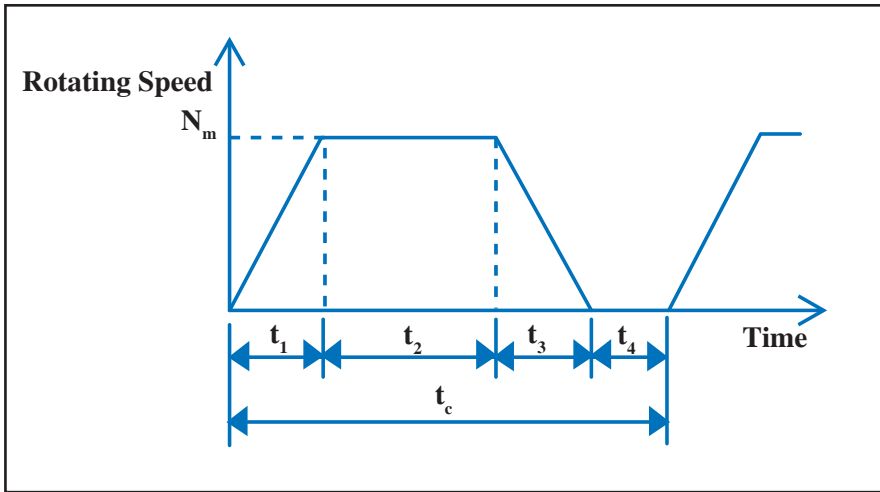
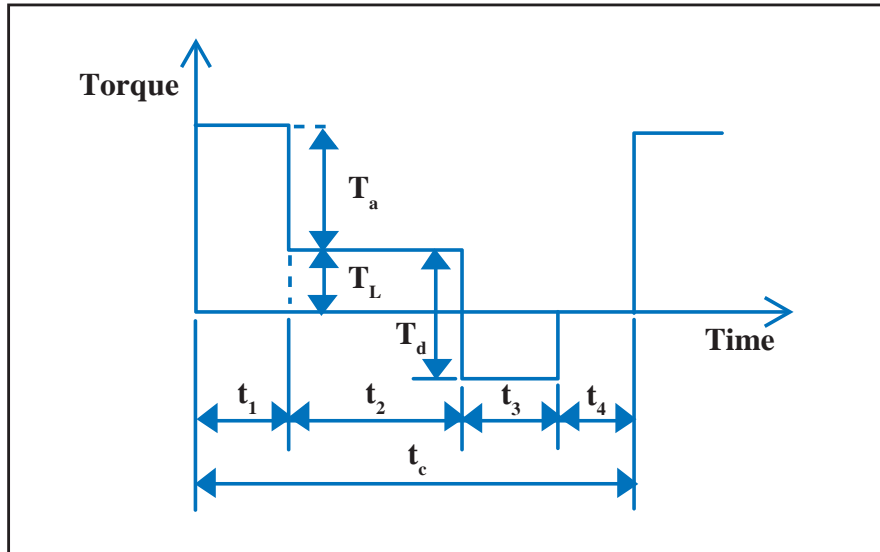

Figure 16—Speed pattern in positioning operation.
Figure 17—Torque pattern in positioning operation.
**Loss calculation.** Figure 16 shows the speed pattern in a typical positioning operation. This operation pattern accelerates up to a rotational speed  $N_m$  in acceleration time  $t_1$ , then rotates at a constant speed over time  $t_2$ , and decelerates in deceleration time  $t_3$ , and stops. This operation pattern is called a trapezoidal drive, and the area of trapezoid shows the rotation amount. Usually, applications such as inspection and assembly, etc., are done in the stop time  $t_4$  after the completion of positioning, and the following operation is begun. Time  $t_c$  is from a start-up to the following start-up and is called cycle time. When heat generation is large, it is necessary to set a longer stop time for cooling down.
Figure 17 shows the torque pattern when it is driven by the speed pattern in Figure 16. Torque  $T_L$  for the load torque component is necessary during a constant speed time, and acceleration torque  $T_a$  and deceleration torque  $T_d$  are necessary during an acceleration/deceleration time.